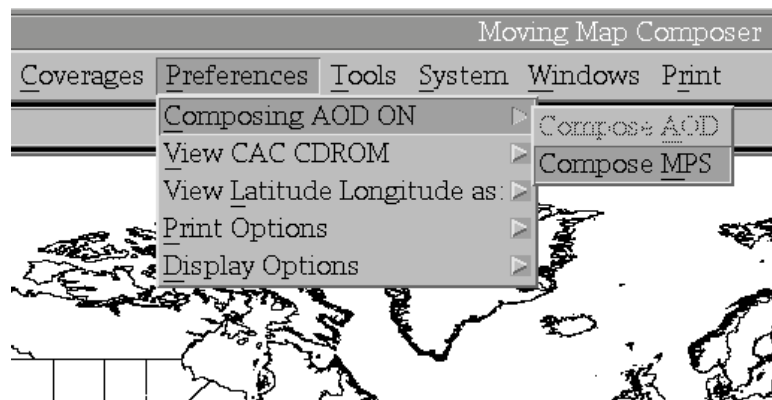

Fig. 26 – Composing preferences
- When switched to *Composing MPS ON* – by clicking on the *Compose MPS* option (Fig. 26) – MMC will compose an image based on the restrictions of MPS images (e.g., image size). A message box appears to confirm selection of this option. DTED data is only available under the *Compose MPS* preference.